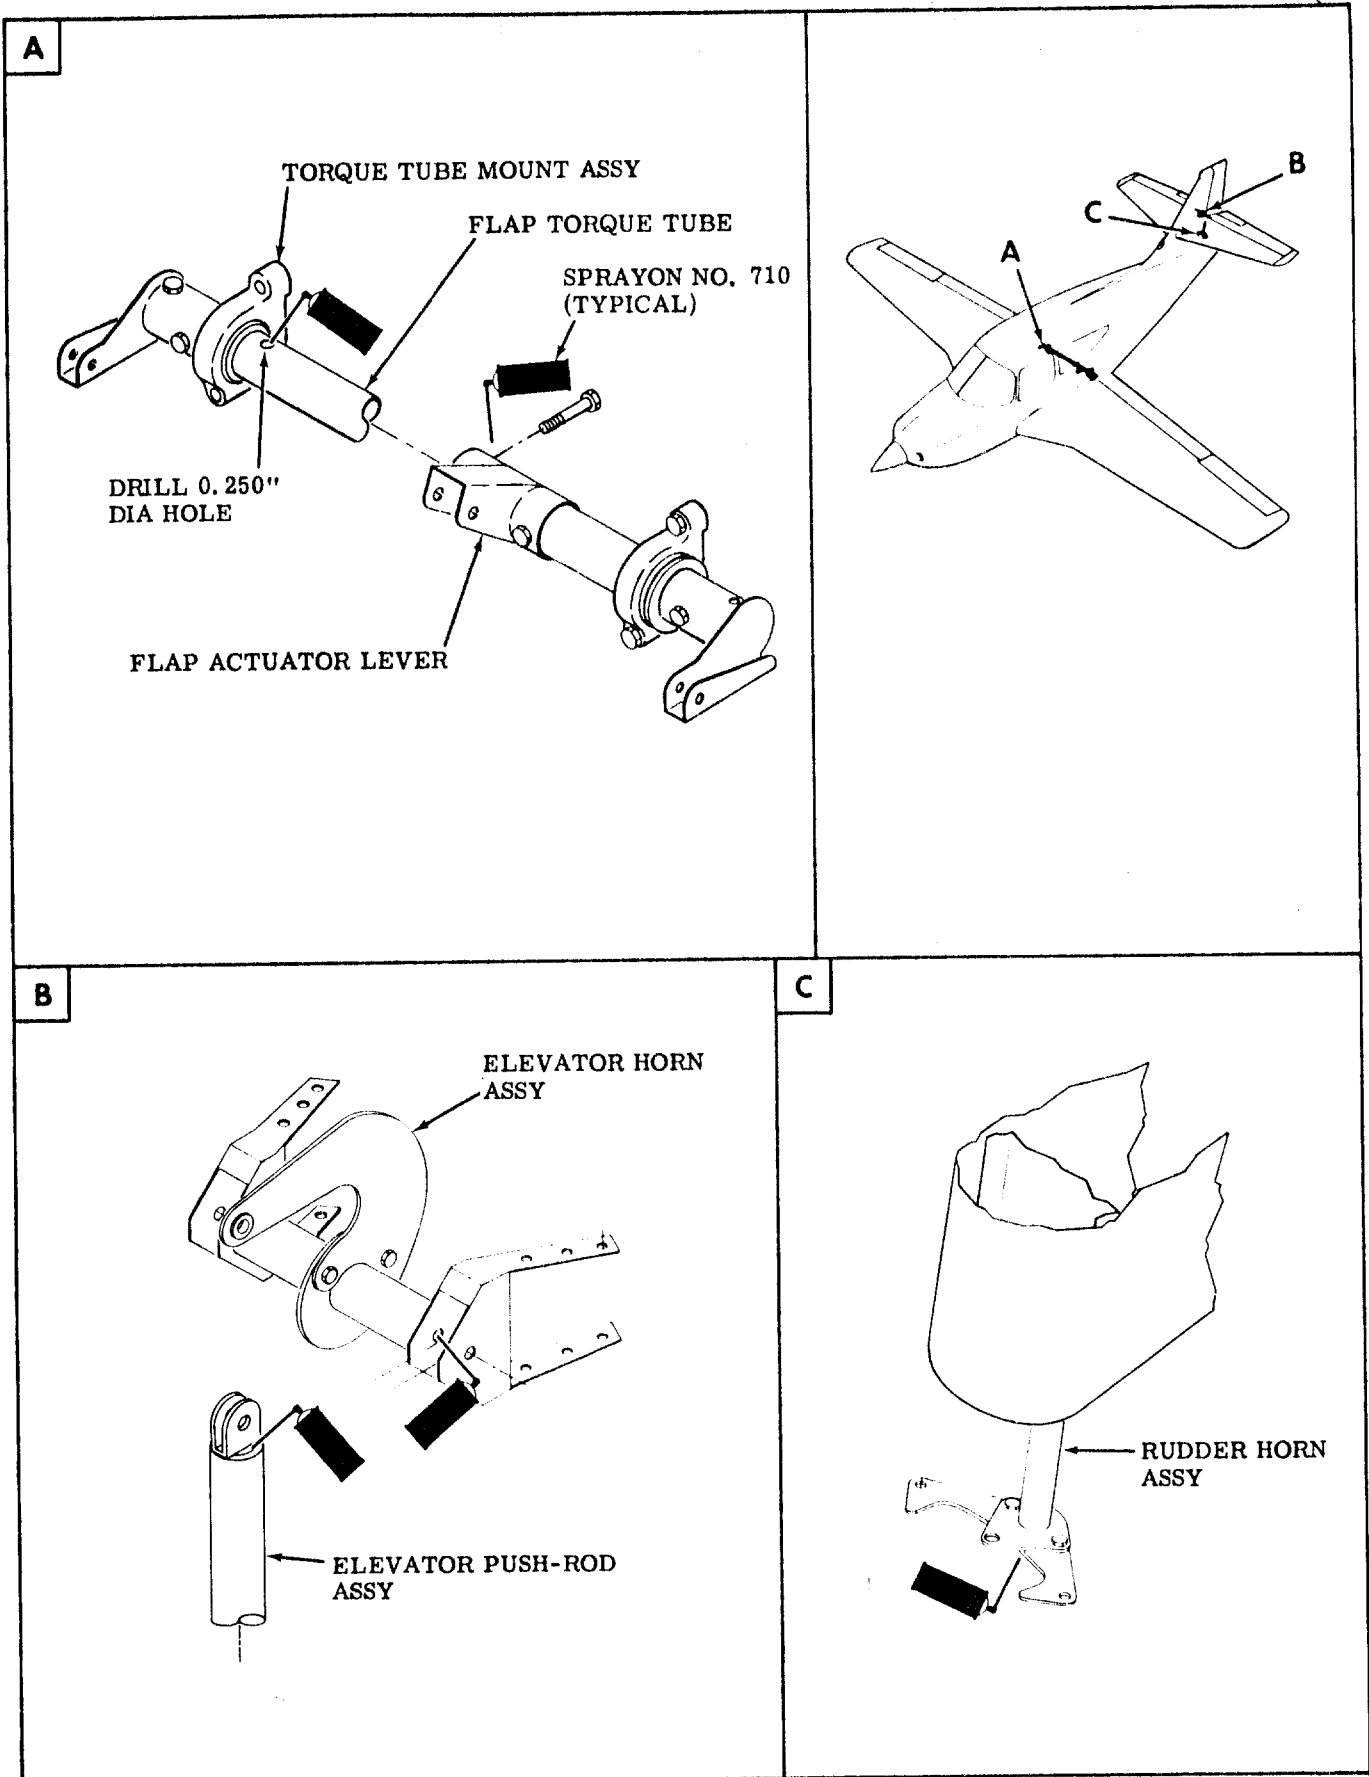

Figure 1.
6. Remove six (6) screws and two (2) bolts at the inboard end of elevator.
10. Spray interior of elevator push-rod assembly, elevator horn assembly and rudder horn assembly with Sprayon No. 710 (see Figure 1.).
17. Drill a 0.250-inch diameter hole in the top of the flap torque tube. Hole to be located just inboard of right torque tube mount assembly (see Figure 1.).
18. Remove inboard bolt from flap actuator lever (see Figure 1.).
19. Spray interior of flap torque tube with Sprayon No. 710 (see Figure 1.).